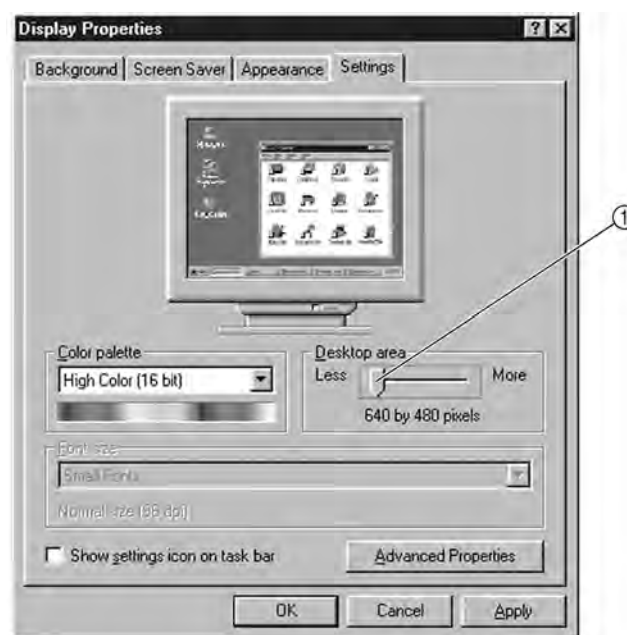

Fig. 131
3. Select **Settings** and slide the Desktop area slider ①. (Fig. 131)